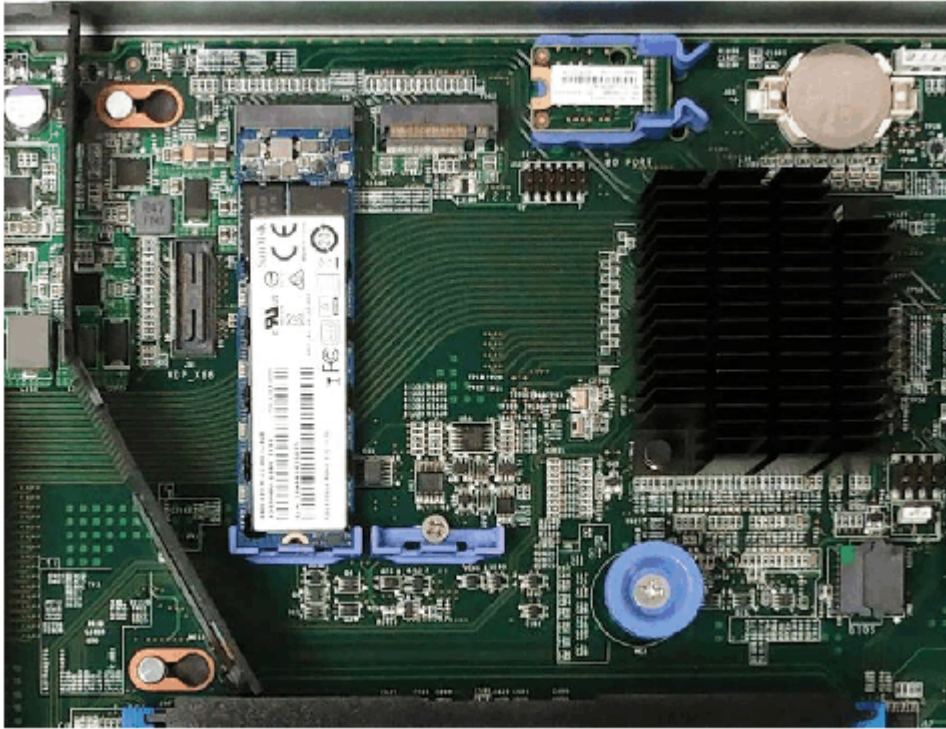

Figure 113. Location of the boot drives
- IBM Storage FlashSystem node canisters have a single boot drive. A boot drive failure causes the node to go offline. Figure 113 on page 150 shows an example of a single boot drive.
For example, Figure 113 on page 150 shows a system with one boot drive in boot drive slot 1.